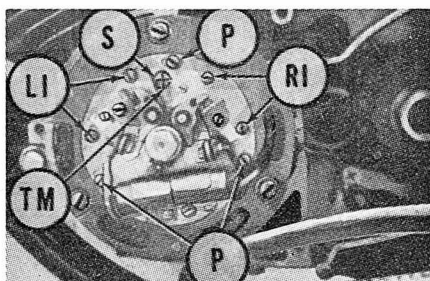

Fig. S5-3—View of ignition timing marks. Refer to text for adjustment procedure.
Ignition breaker point gap should be 0.014 inch for each set of breaker points. Ignition timing does not advance and should occur (points just open) at 24 degrees BTDC on X-5 models and 27 degrees BTDC on X-6. Timing marks (TM—Fig. S5-3) on rotor are painted red for left cylinder, black for right cylinder. Ignition should occur when rotor timing mark (TM) aligns with mark (S) on stator as seen through the small opening. Ignition timing for left cylinder is changed by moving the breaker plate after loosening screws (L1). Ignition timing for right cylinder is changed by moving breaker plate after loosening screws (R1). Slight changes in both cylinders can be made by moving the complete stator plate after loosening three screws (P).